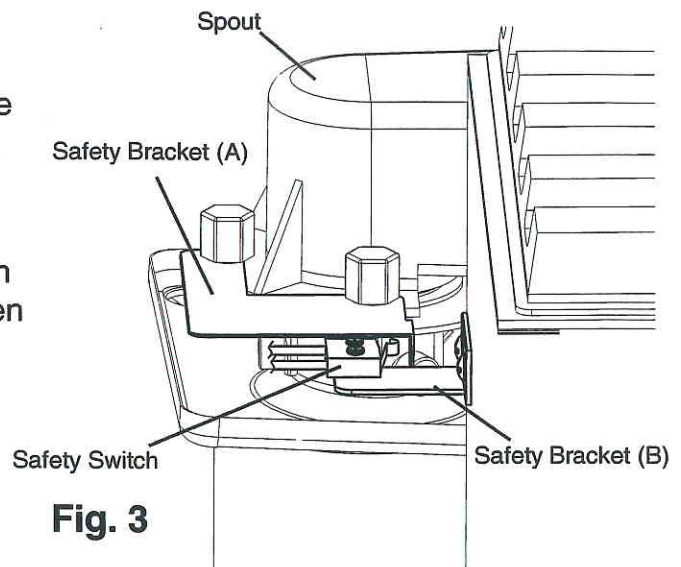

Fig. 3
- 14) Have the safety switch brackets moved out of location during shipping? Make sure they are in position as illustrated in Fig. 3.